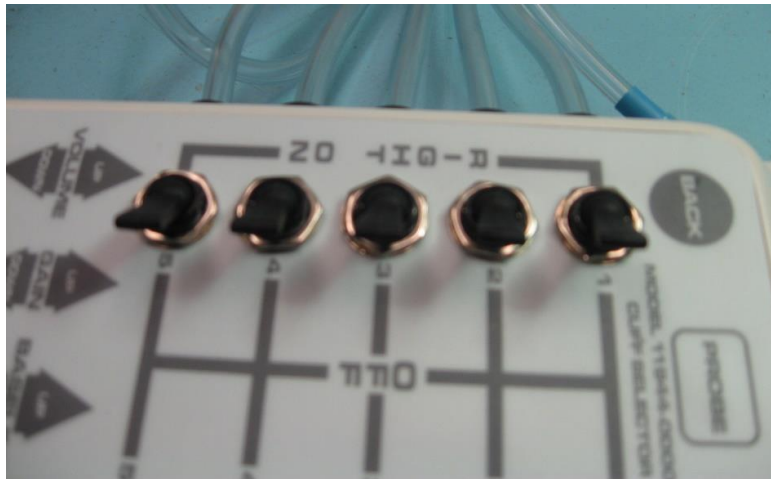

Figure 10
7. Secure the left and right Manifold Assemblies to the Case with the lock washer and Hex Nut supplied with the Toggle Valves using a 9/16" socket as shown in Figure 10. **Note: Make sure not to cross thread the nut.**